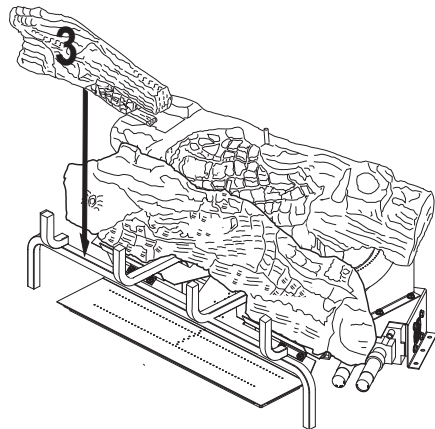

Figure 24 - Installing Log # 3
- Place the front left log (#3) onto the base assembly between the middle log (#2) and the grate fingers. The back of the front left log (#3) will rest against the front of the middle log (#2). The notch at the end of the front left log (#3) will fit around the grate bar. See **Figure 24**.